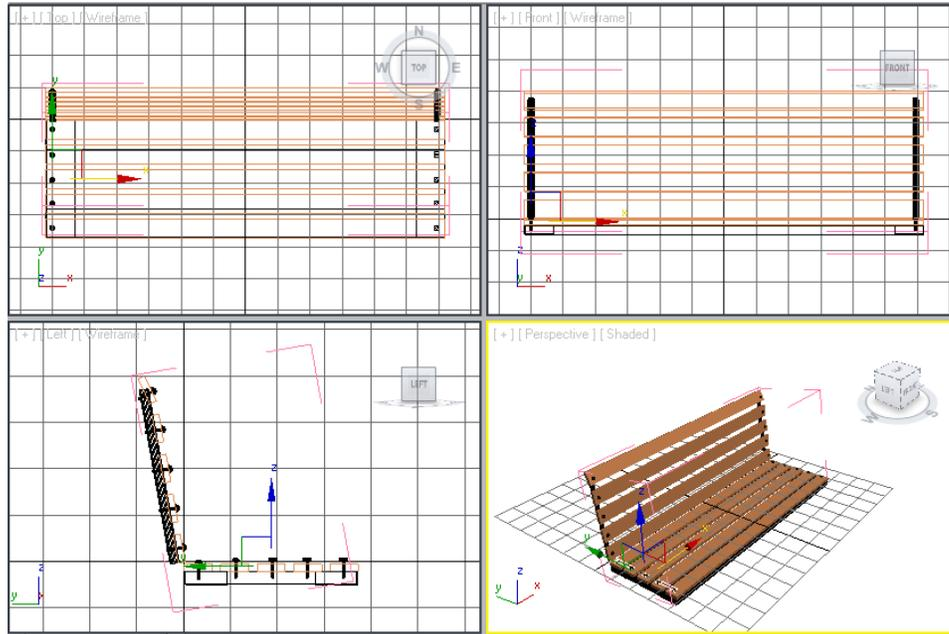

Figure 2-86 Alignment of the left side seat rivets in all viewports
15. Align the *left side seat rivets* using the **Select and Move** tool in all viewports, as shown in Figure 2-86.